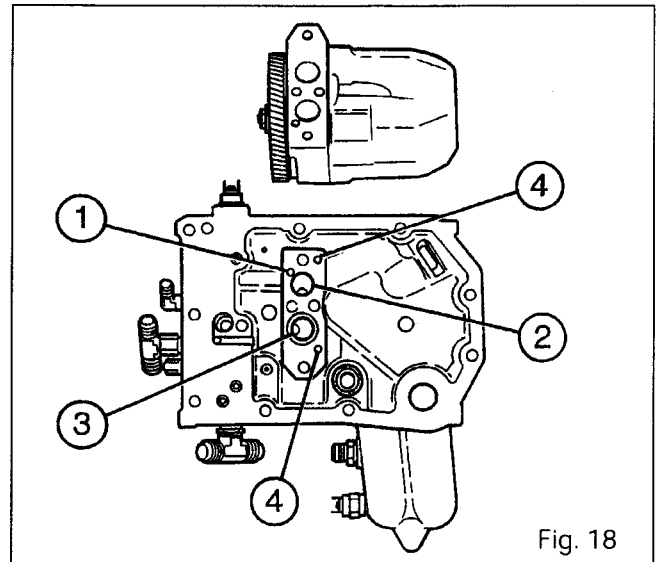

Fig. 18
26. Check that the locating dowels (4) are in place (Fig. 18).
27. Replace the O-rings (1) to (3) (Fig. 18).
**Note :** *Apply a small bead of Loctite 574 or equivalent around the bolt holes (47) inside the cover. Use the same method as for the left-hand cover (see Section 9T02, part B).*
- Engine speed sensor (25) : smear the threads with Loctite 577 or equivalent (see the adjusting method in procedure 30).
- Nut (37) : 50 to 60 Nm, Loctite 241
- Bolt (47) : 120 to 160 Nm, Loctite 241
- Bolt (4) : 25 to 35 Nm, Loctite 542